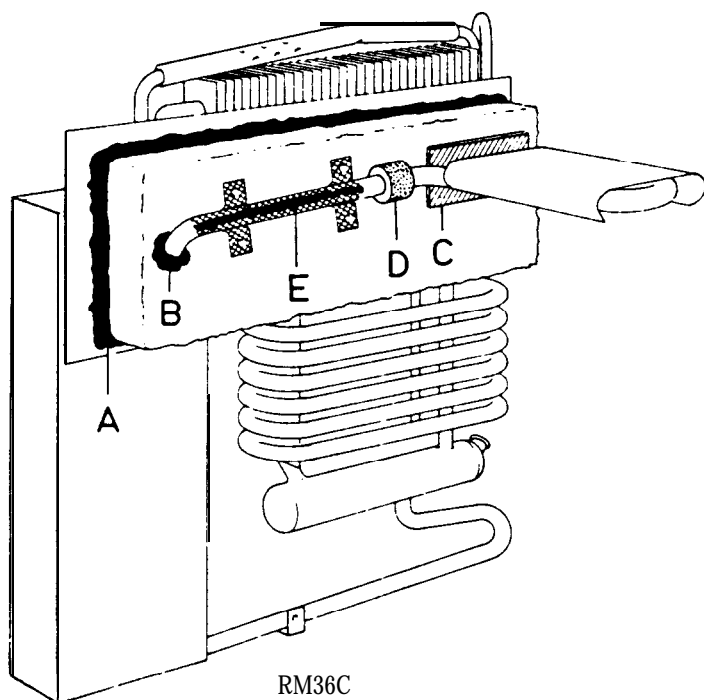

Fig. 44
1. Be sure to apply sealing permagum "A" (fig. 44 and fig. 45) on the unit mounting plate and on the high evaporator inlet tube (B).
2. Be sure to fit insulation pad (C) and sealing (D) (only on RM36C).
3. Be sure to apply proper amount of "Thermal Mastic" on the evaporator coil "E" (fig. 44 and fig. 45).